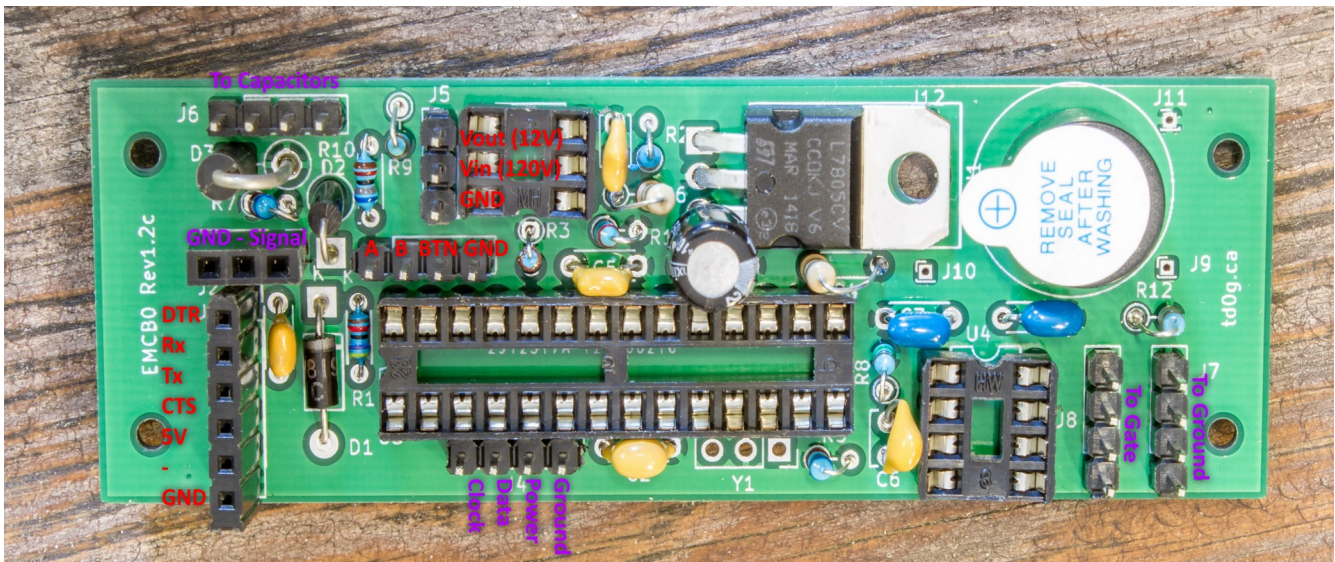

Figure 18: EMCB0 Control Board Hookup Guide
35. Measure the input voltage at the batteries as shown in figure 18. Using the encoder wheel, adjust the voltage displayed to match the input voltage. *NOTE: if you purchased a control board from me, the voltage should be correct already.*